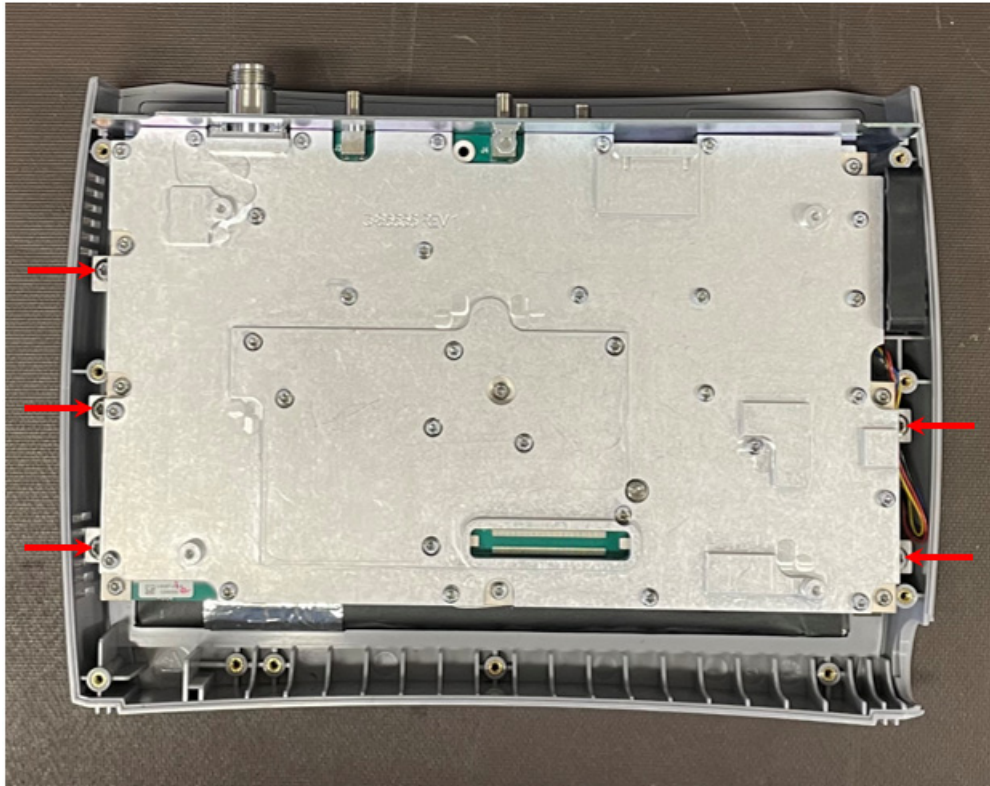

Figure 3-6. Main PCB/SPA PCB Removal
3. Remove the five Torx screws securing the Main PCB and SPA PCB assemblies using a T20 Torx driver. See Figure 3-6.